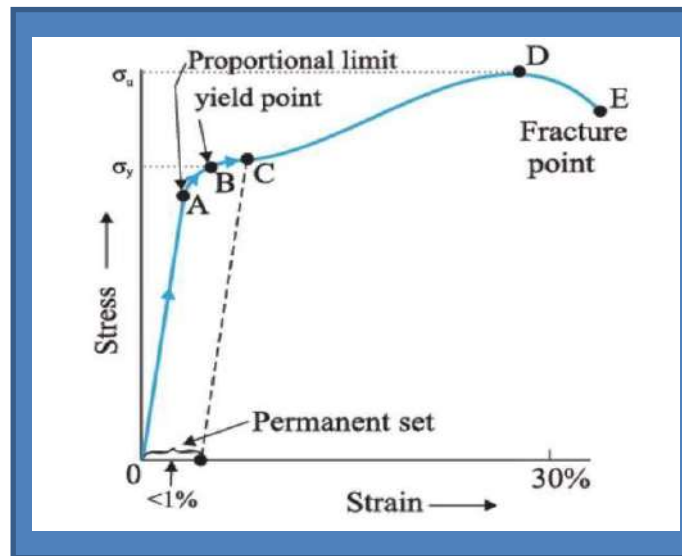

Fig. 1.3 A typical stress-strain curve for a metal
Typical stress strain curve for a metal is shown in Fig. 1.3. This graph is plotted between the stress (which is equal in magnitude to the applied force per unit area) and the strain produced.
- Above point B the strain increases rapidly even for a small change in the stress (The portion between B and D). In this region the body does not regain its original dimension and when the stress is made zero, the strain is not zero. Thus the material is said to have a permanent set and the deformation is said to be plastic deformation (See Fig. 1.3).
- After the point D, additional strain is produced even by a small applied force and fracture occurs at point E (See Fig. 1.3).
- The ratio of stress and strain, in the proportional region within the elastic limit of the stress strain curve (region OA in Fig. 1.3) is called modulus of elasticity and is characteristic of the material.